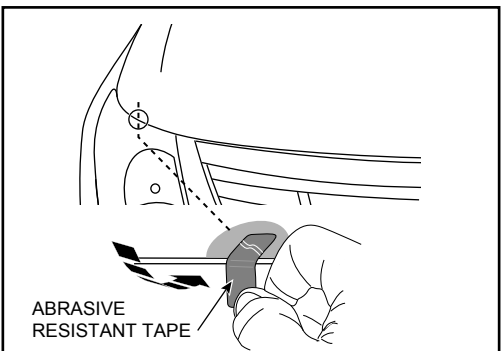

Figure 6
6. At the noted outer wing clip positions, clean the hood surface with the alcohol wipe provided. Wipe away any residue with a clean dry cloth. Adhere the abrasive resistant tape strips to the hood directly below the holes in the wings of the Hood Protector. Fold strips over so half the tape strip is adhered to the outside and half on the underside of the hood, as shown (see Figure 6).